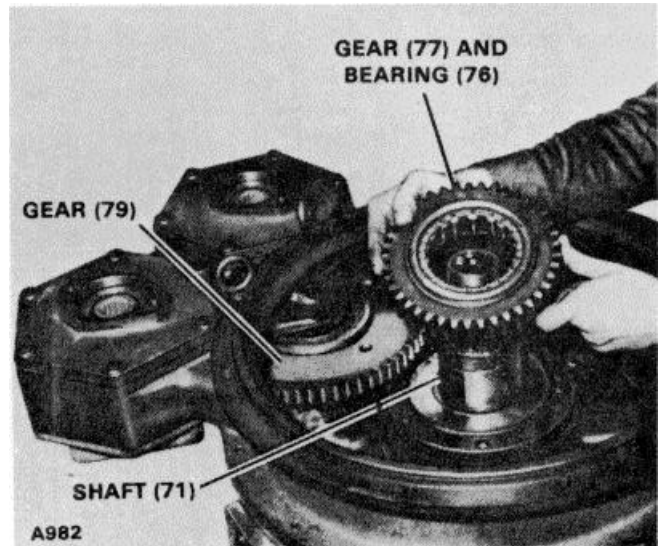

Figure 4D-6. Installing Gear and Bearing
12. If snap ring (74) was removed from drive spider (75) install it at this time. Set drive spider (75) on gear (77). See Figure 4D-7.